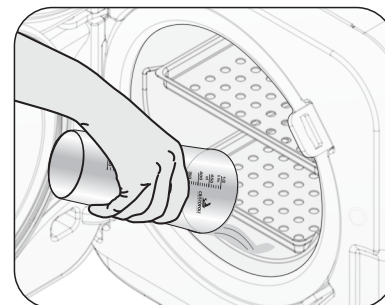

Fig.6
- c► Use the measuring cup (Fig. 6) to pour the correct amount of **distilled water** directly inside the chamber (pressure vessel) **before** each cycle, according to the table below: